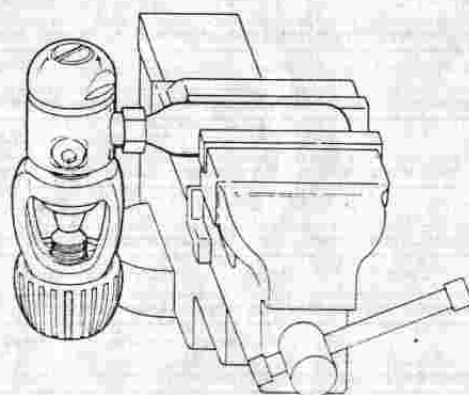

FIGURE 1
6. Screw an empty CO₂ cartridge clockwise into one of the low-pressure ports on the first-stage body (Item 1). Mount the first-stage body in a bench vise, mainspring side facing upward, by means of the CO₂ cartridge. (See Figure 1).